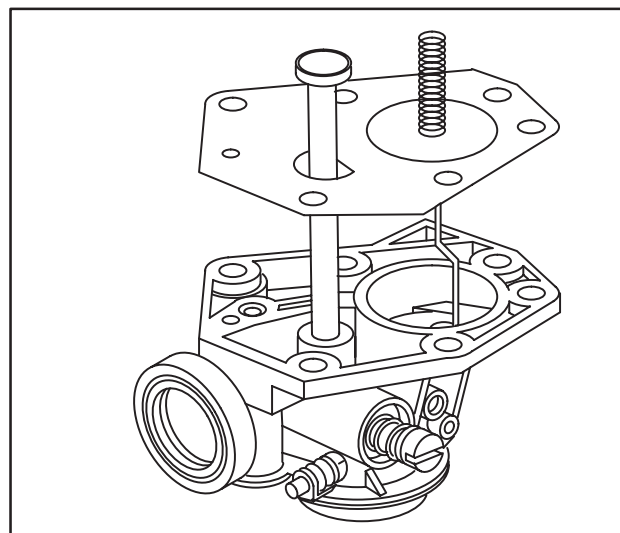

Fig. 163 – LOCATING DIAPHRAGM ON CARBURETOR
2. Holding carburetor body upside down, place diaphragm on body while guiding choke link thru hole for link, Fig. 163.